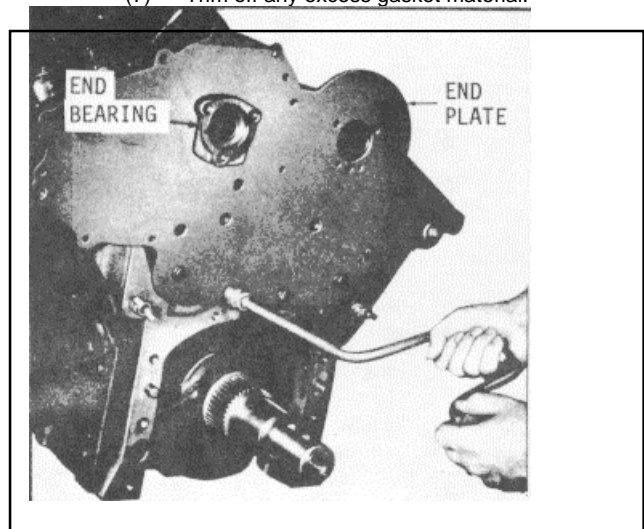

Fig. 2 Installing Front End Plate
- (2) Attach the front end plate to the cylinder block with bolts and lockwashers. Tighten
- (3) Insert the right bank camshaft end bearing through the SMALL bearing bore in the end plate and into the bore of the block to accurately align the end plate with the cylinder block as shown in Fig. 2.